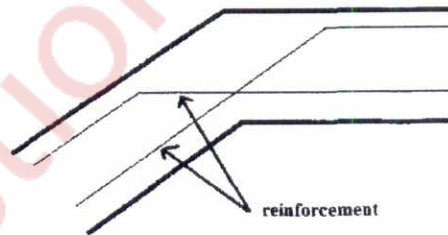

Figure 1.
- c. Explain the scissor joint in staircase reinforcement. (figure1) **04**